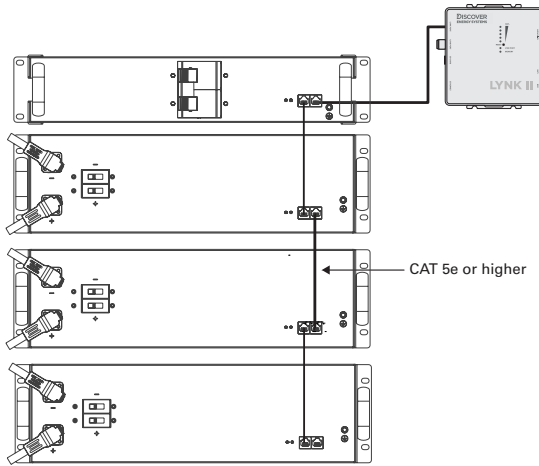

Figure 18. LYNK Network Installation for AES RACKMOUNT
2. Attach CAT5e or higher cables to the LYNK Port, from one battery to the next battery, until all the batteries are connected to form a series network (Figure 18).